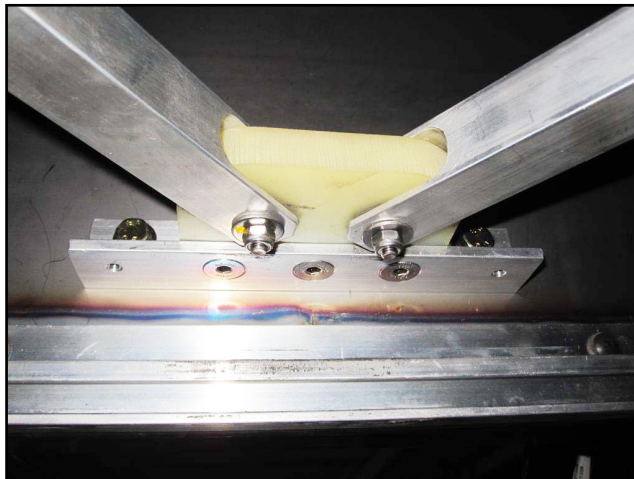

Figure 16 - Bolt the Stabilizer Arms
- 1.20. Bolt the stabilizer arms on their respective brackets in the front and rear sections of the vehicle. See Figure 16. The bolt head must be on the top and the nut on the bottom. Apply 6.6 lb-ft (9 N·m) of torque. Apply anti-tamper seal. Reinstall the protective caps on the head of the bolts.